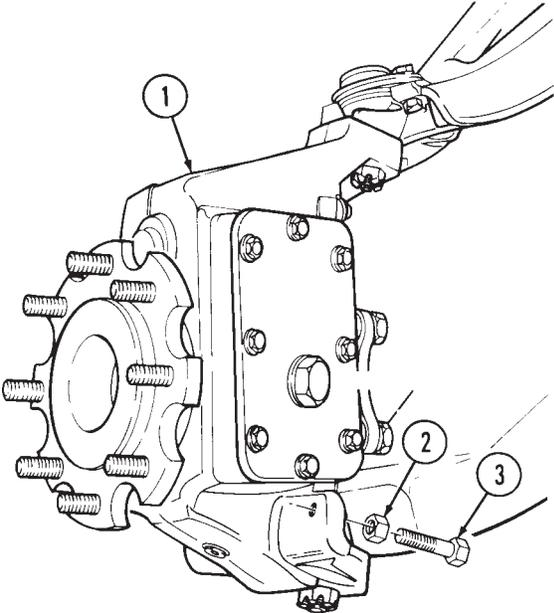

Figure 7-10.
(Figure 7-10 through 7-13)
- 1. Loosen jamnut (2) and remove steering stop capscrew (3) and jamnut (2) from geared hub (1). See Figure 7-10.
- 2. Remove jamnut (2) from capscrew (3).